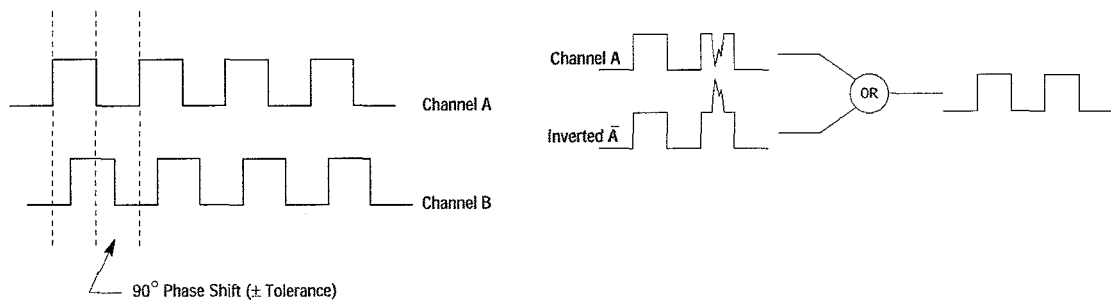

Figure 3.15: On the left, basic quadrature encoder output; and on the right complementary outputs to cancel out disturbances.
- For the encoder feedback, redundant circuits are used to cancel out possible disturbances. In total 10 circuits are used: 2 for power, and 8 for data. The latter consist of 4 twisted pairs transmitting the pulse trains A, \bar{A} (A inverse), B, and \bar{B} . Assuming a disturbance acts both A (or B) and the inverted, it can be canceled out as shown in Fig. 3.15.